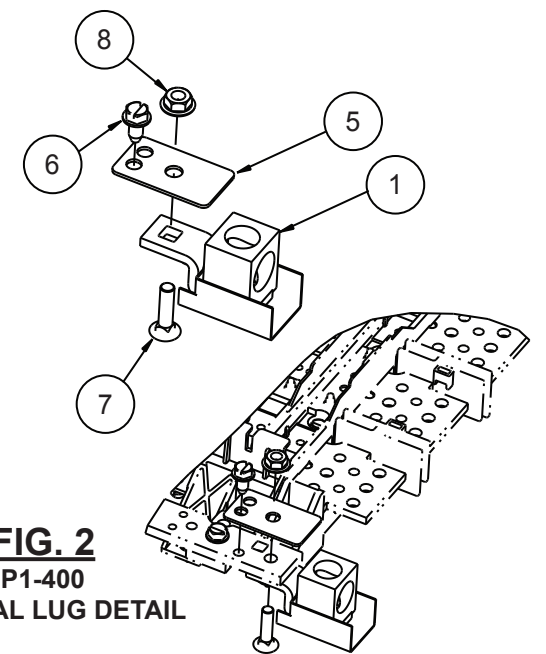

FIG. 2
5. For the P1-250, position lug sub-assembly (item 1) on top of the cross bus and secure with a 5/16"-18 thread-forming screw (item 3).
6. For the P1-400 (to be used ONLY in conjunction with a subfeed breaker), position lug sub-assembly under the riser and insert carriage bolt (item 7) from beneath, as shown in Fig. 2. On the exposed stud, slide the anti-turn plate (item 5) on and then thread on the 1/4"-20 belleville washer nut (item 8). Finish by using the 1/4"-20 x 1/2" screw (item 6) through the anti-turn plate and into the riser.